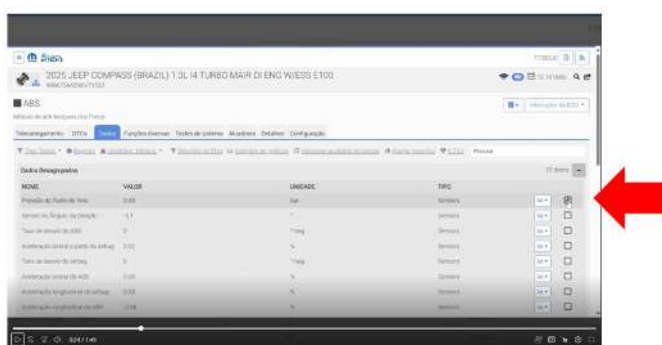

Fig. 3
5. Select the pressure of the fluids in the DATA function Fig. 3.